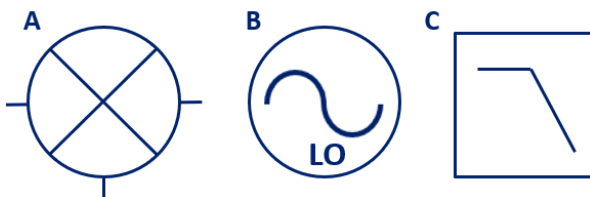

Figure 6: Symbols for A) mixer, B) local (IF) oscillator, and C) passband or low pass filter.
As alluded to in the previous paragraph, a portion of the network analyzer circuitry is dedicated to mixers and a tunable local oscillator (LO) – see **Figure 6** – that helps resolve higher frequencies to a lower intermediate frequency (IF), then used to define a signal passband through a downconverter. Some diagrams may opt to bypass showing the passband in favor of implying that the functionality gets addressed by the analog-to-digital conversion (ADC) and digital signal processing (DSP) stages.